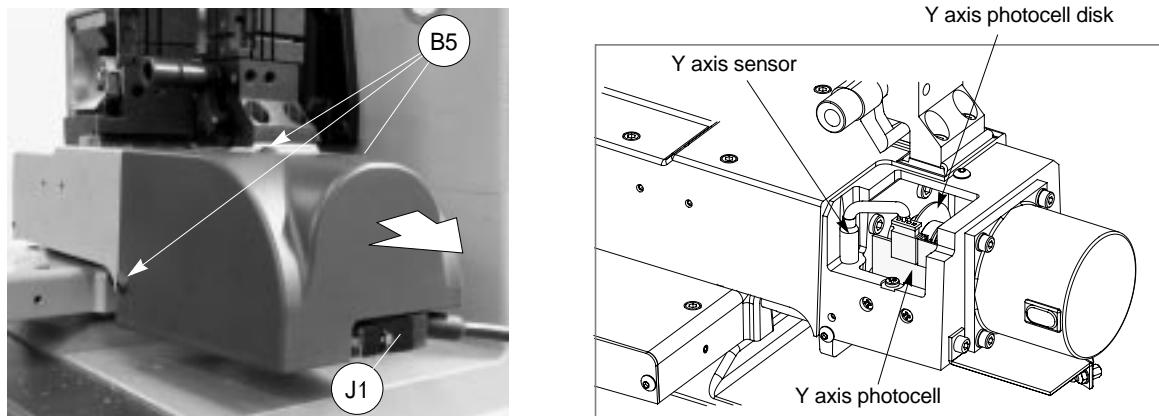

Fig. 33
- 5) disconnect the (J1) Y axis cable from the carriage (fig. 33).
- 6) unscrew the 3 (B5) fixing screws and remove the Y axis protective cover by pulling it in the direction shown in figure 33.
- 8) plug the Y axis (J1) cable (fig. 33) and the machine's power supply cable back into place.